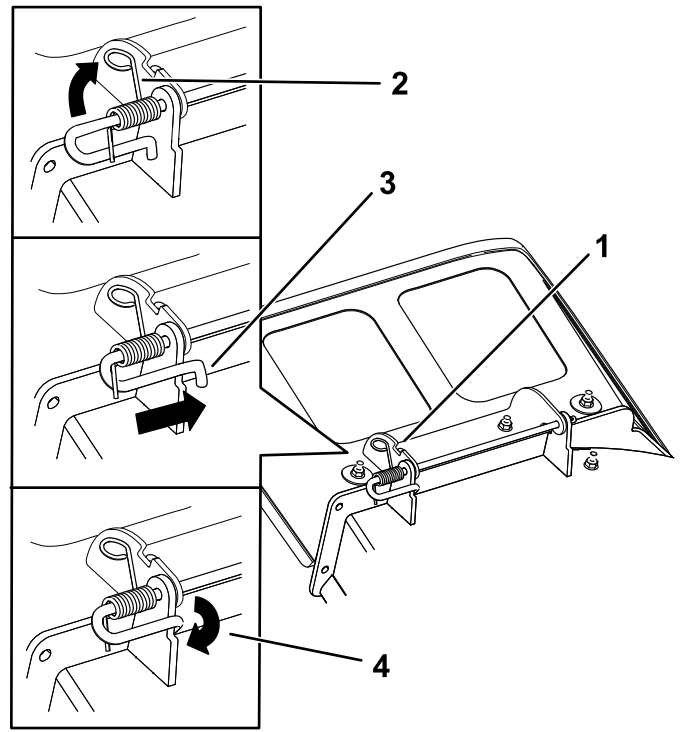

**Figure 77**
- Disengage the spring from the notch in the deflector bracket and slide the rod out of the welded deck brackets, spring, and discharge deflector (Figure 77).